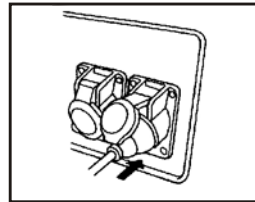

Fig.13. Connecting the lode
2. Confirm that the appliance to be used is switched off, and plug in the appliance. See Fig. 13.